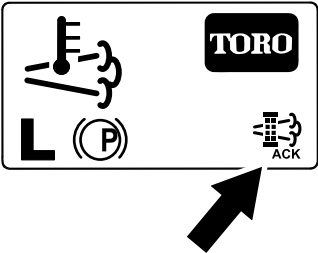

Figure 60
- The InfoCenter displays the home screen and the regeneration acknowledge icon (Figure 60) appears in the lower right corner of the screen as the regeneration processes.